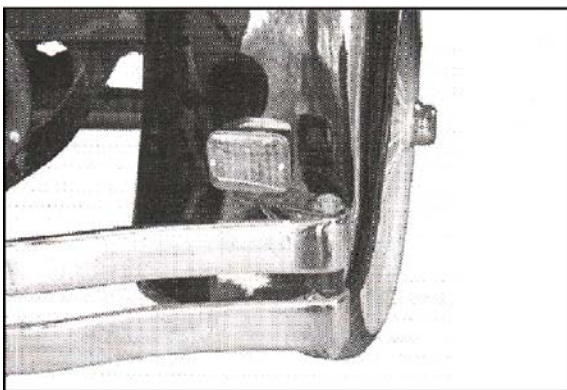
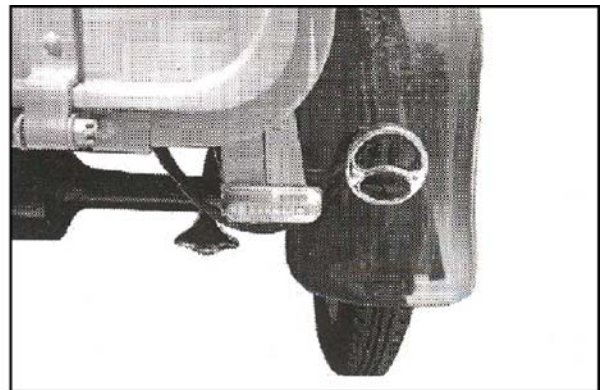

Figure 4-238
Figure 4-239
- Turn signal lights at the rear bumper can be mounted between the bumper bars. A larger trailer style tail light can also be mounted on an angle bracket and bolted to the bumper clamp bolt (Figure 4-237). Another option is to mount a smaller light to a bracket on the bumper end bolt (Figure 4-238). Small rectangular LED lights can also be used as turn signal lights (Figure 4-239). LED lights require a 12 volt electrical system.